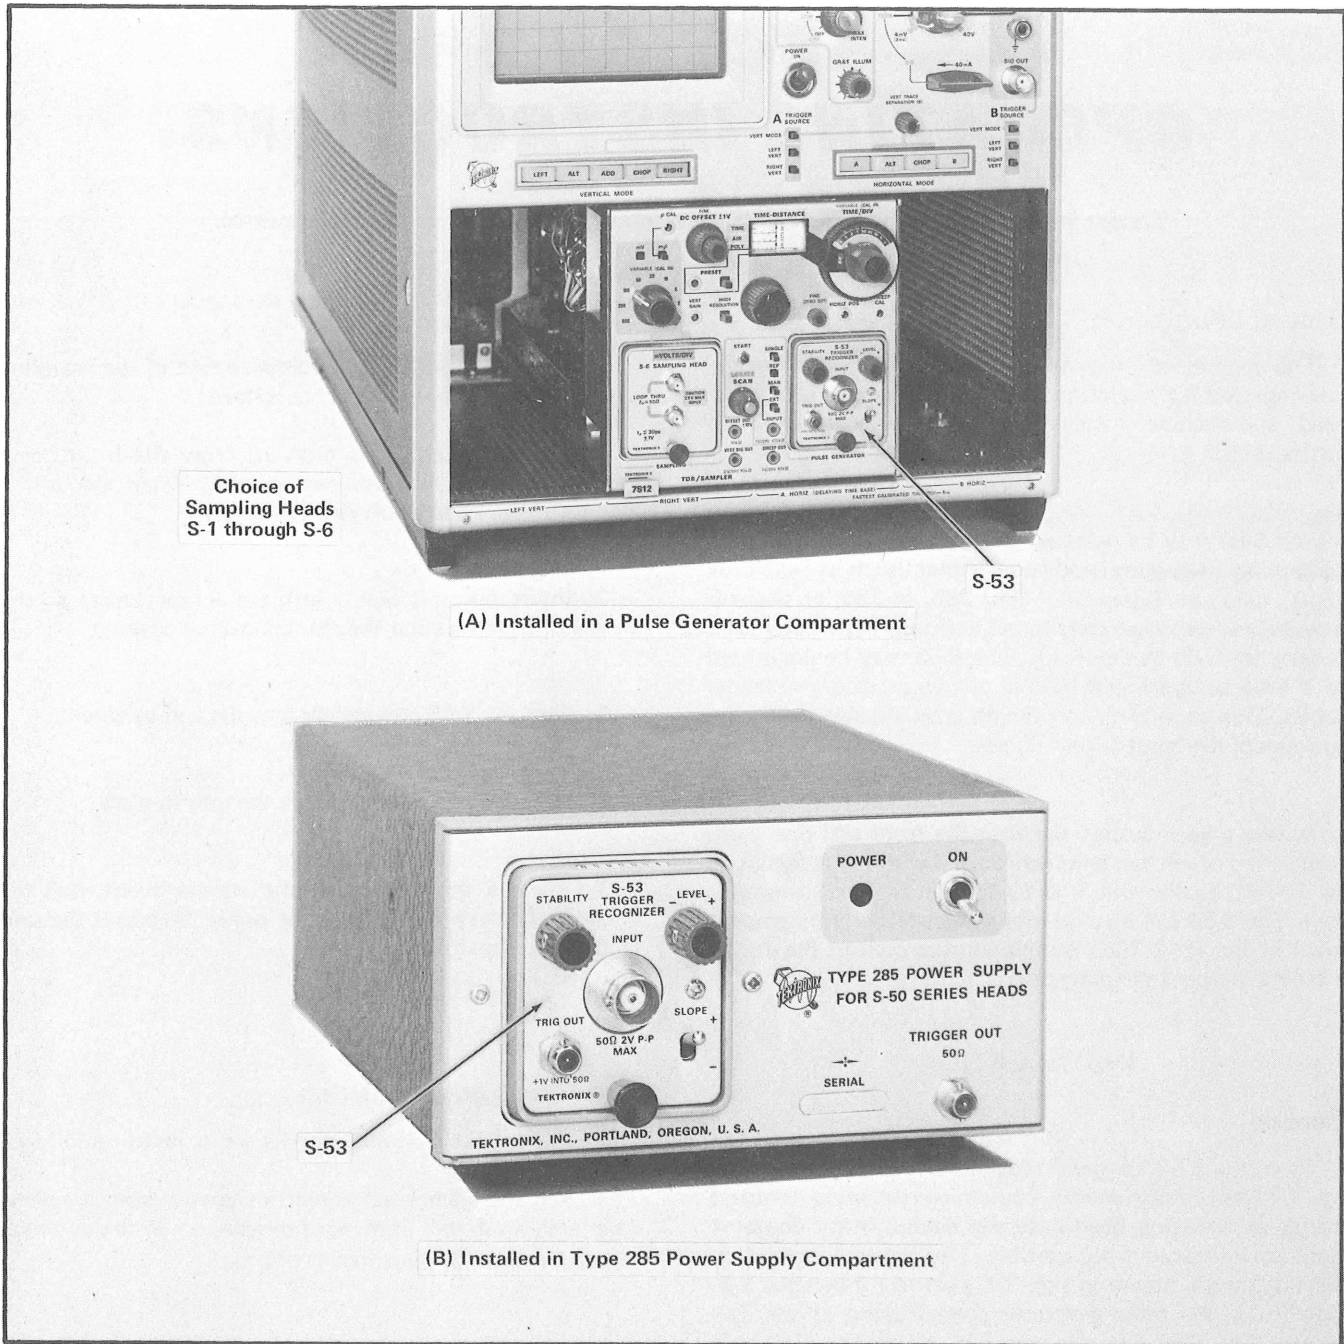

Fig. 2-1. S-53 Installation Information.
Since the S-53 Trigger Recognizer Head can be powered by Tektronix instruments containing sampling compartments or sampling head extender cables, many combinations of instruments are possible. Two general methods of installation are shown in Fig. 2-1. Part (A) shows the S-53 installed in the pulse generator compartment of the Tektronix 7S12 TDR Sampler unit. This allows the 7S12 to be used as a general purpose sampling unit. The 7S12 can be installed in any 7000 series oscilloscope. Part (B) shows the S-53 installed in the head compartment of the Type 285 Power Supply.